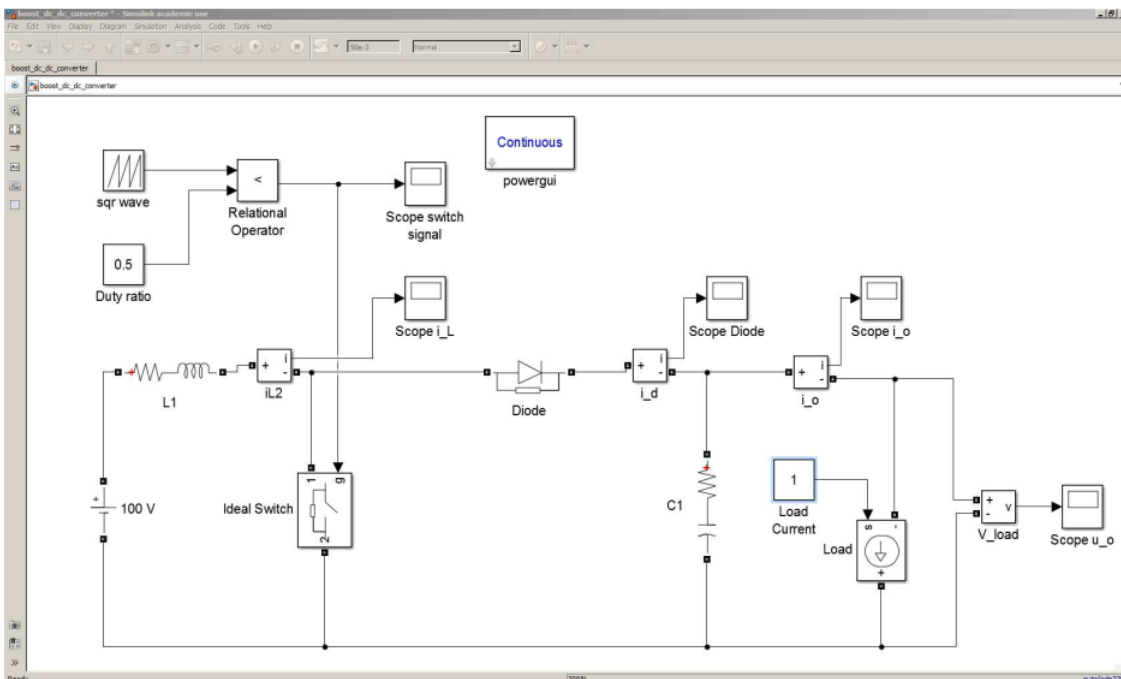

Fig. 1. Boost-converter model
2. Create the Boost converter simulation model by using the conventional Simulink-blocks (constant, repeating sequence, relational operator and scope) as well as the SimSpace library (DC voltage source, series RLC branch, current measurement, ideal switch, diode, controlled current source, voltage measurement and powergui-block). Those are found by using *Library browser*. One example is shown in Fig. 1.